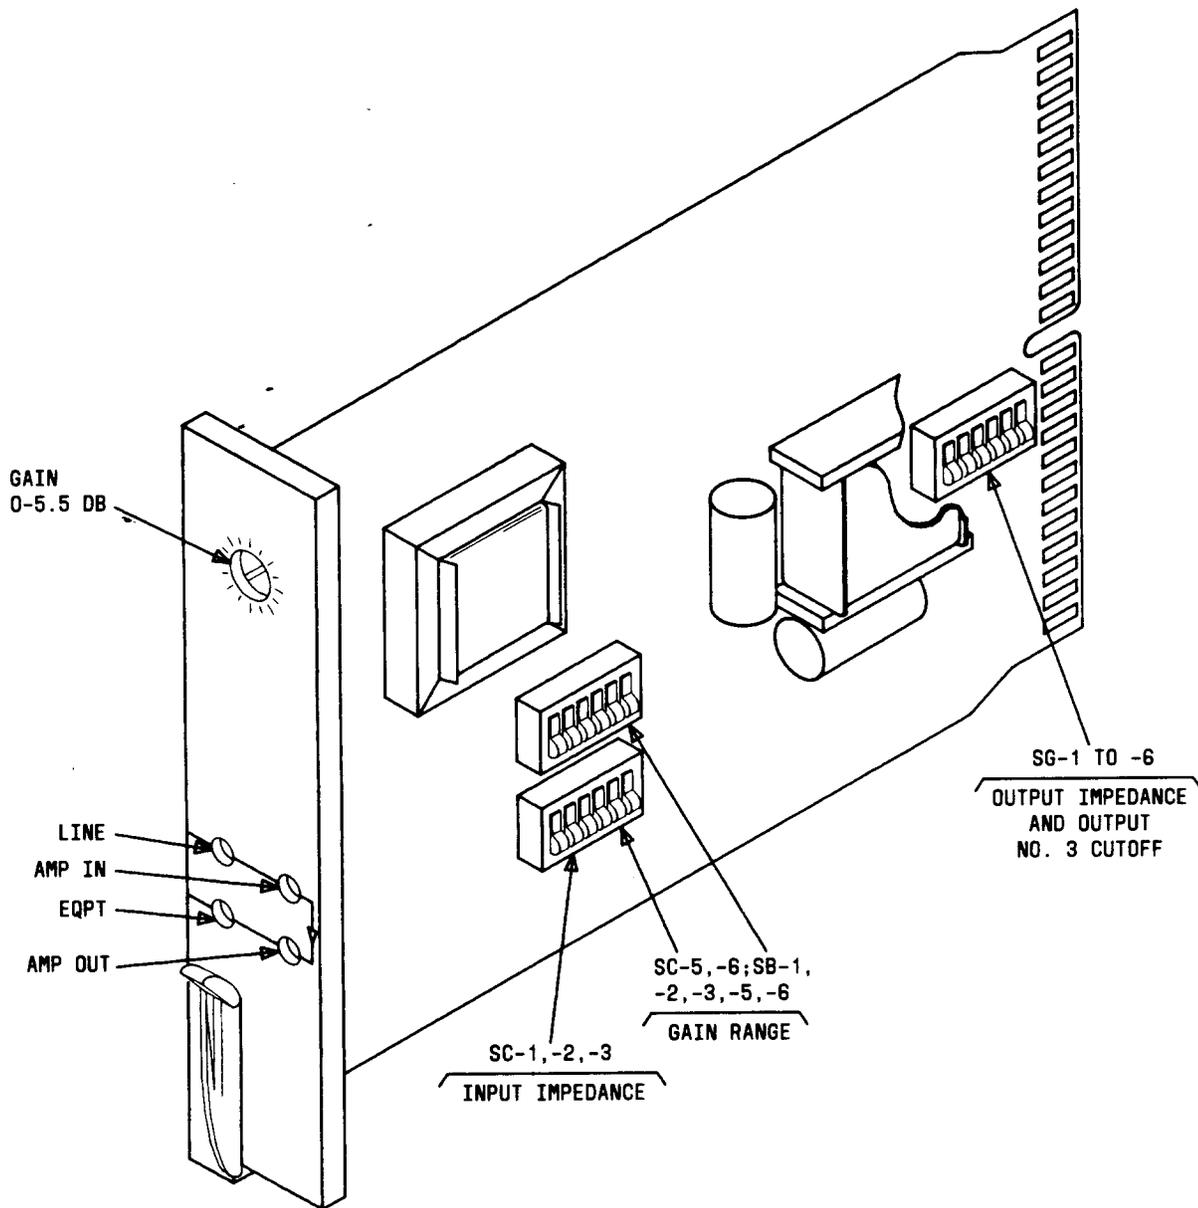

Fig. 1—QVF52C, Physical Layout
**1.01** The QVF52C and QVF52H program amplifiers (see Fig. 1 and 2) are used for amplifying and distributing 5-, 8-, or 15-kHz audio program signals. The gain of the QVF52C unit is adjustable from 0 to 40.5 dB in 5-dB and 0.5-dB steps. The gain of the QVF52H unit is adjustable from 0 to 30 dB in 10-dB steps, with an additional 11-dB range (coarse) and 1-dB range (fine) adjustment from potentiometers mounted on the faceplate (42 dB maximum).
or H Program Amplifiers are initially installed. The following information is provided as a checklist and should be used in accordance with circuit information for the program circuit being provided. No special apparatus is required. See Fig. 1 and 2 and Tables A through D for circuit layout information.
2	Gain Range (QVF52C only) (See Fig. 1). Set switches SB-1, -2, -3, -5, -6; SC-5, -6, and the faceplate gain control (0-5.5 dB) for the specified gain requirement (see Table B).